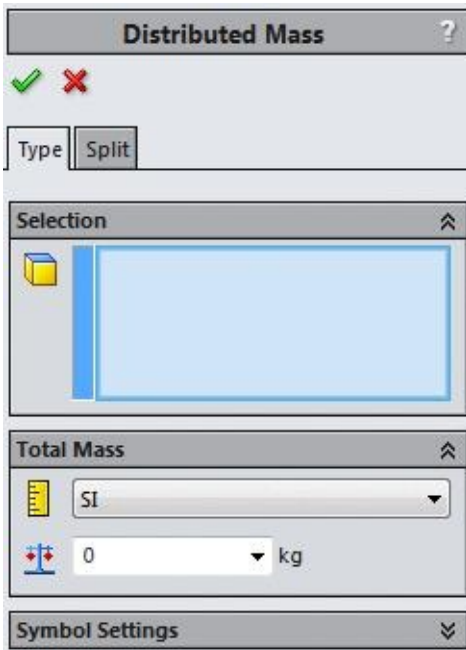

Figure-54. Distributed Mass PropertyManager
- Click on the **Distributed Mass** button from the **External Loads Advisor** drop-down. The **Distributed Mass PropertyManager** will display; refer to Figure-54.